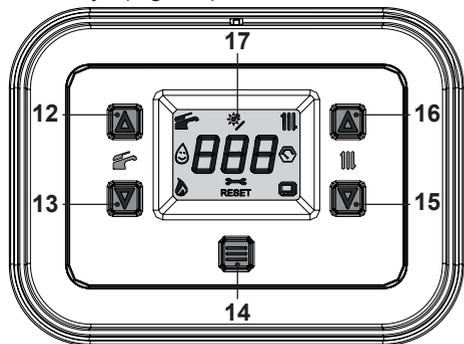

Fig. 3.1
If a radiator (or a convector) does not heat up, check that no air is present in it and that its valve is open. If the ambient temperature is too high, do not alter the radiator valves. Reduce the central heating temperature instead by means of the room thermostat or by pressing the 15 and 16 heating adjustment keys (Fig. 3.1).
Press the reset key on the boiler control panel 14 (Fig. 3.1) to reset its functioning.
After three reset attempts made by pressing the reset key 14 (Fig. 3.1), code "E91" and the symbol  (Fig. 3.4) appear on the LCD display. The boiler is in lockout mode.
To restore boiler operation, disconnect the electrical power supply. Then, reconnect it and press buttons 12, 13 and 14 (Fig. 3.1) on the boiler control panel at the same time for at least 5s.